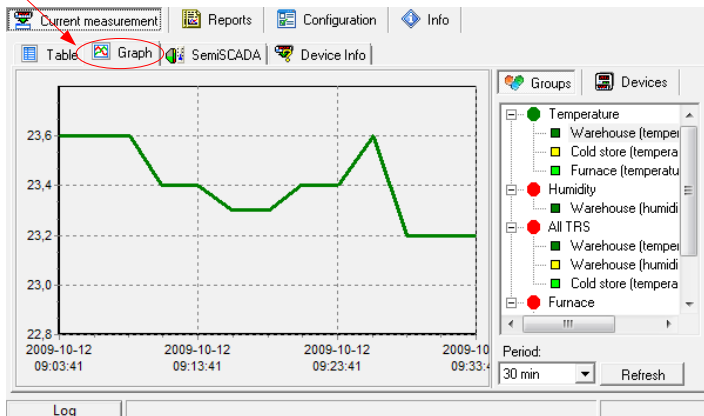

Figure 3.11. Current measurement - Graph tab
Graph tab (Figure 3.11) is used for viewing the measurement results (temperature, humidity) in the form of a graph. Measurements from a maximum of 12 units (transducers, sensors) may be viewed simultaneously.
- **graphs area** - plots measured values (e.g. temperature, humidity) in function of time. Each sensor is distinguished by a different colour (Figure 3.11);